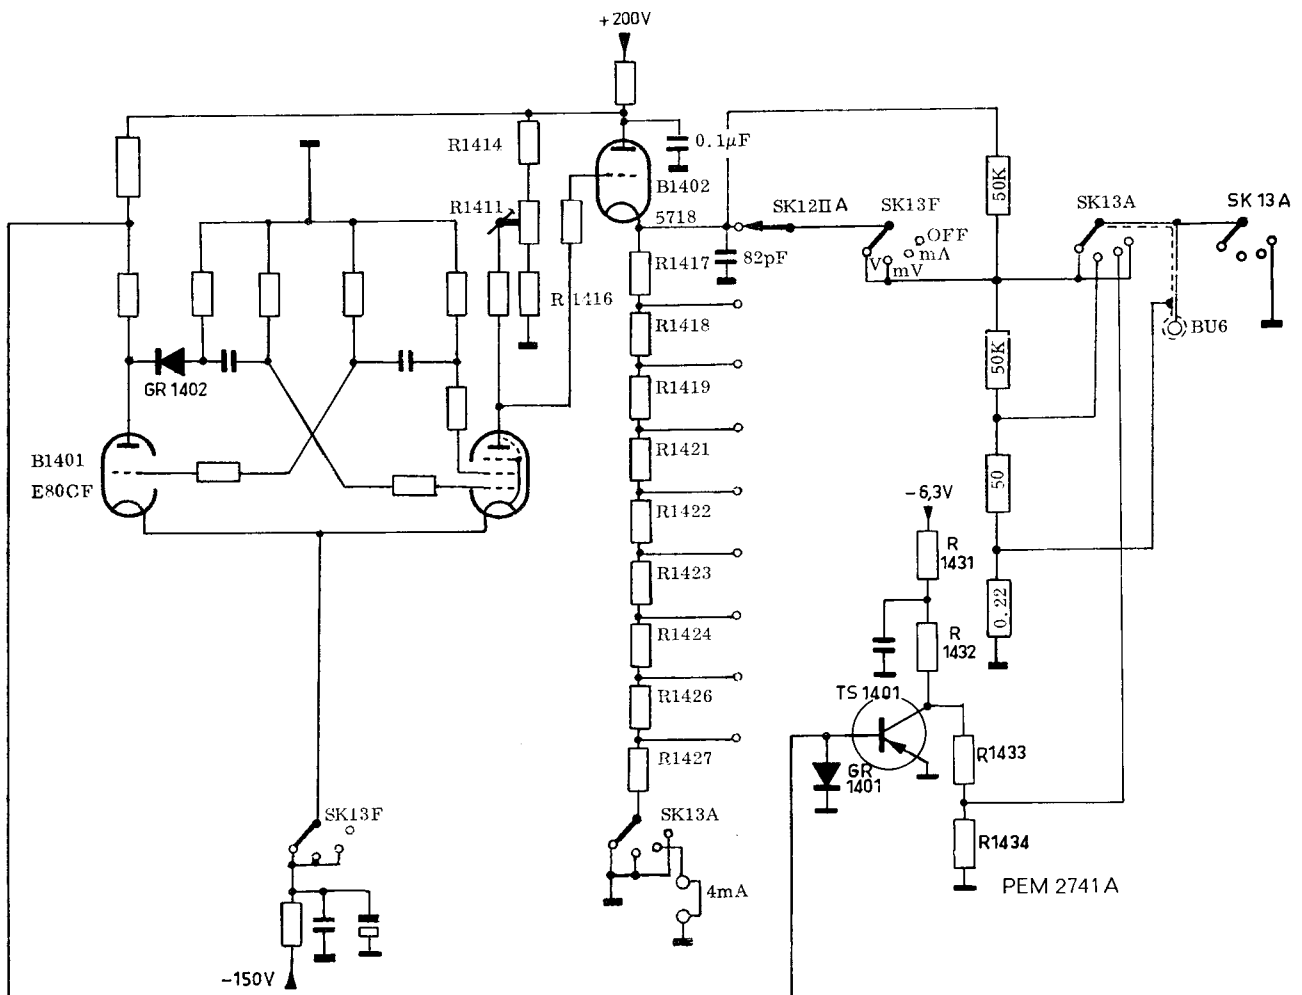

Fig. 26. Calibration unit circuit
D. CALIBRATION UNIT (Fig. 26 and Fig. 94)